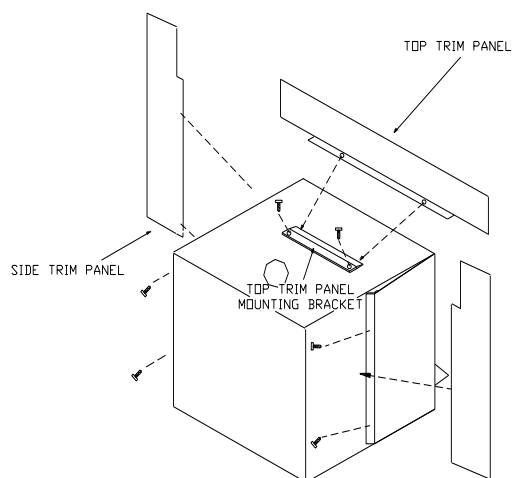

FIGURE 6 **MOUNTING TRIM PANELS**
1. Place side trim panels in place, flat against the face of the fireplace. Mark down front edge of trim panel with a pencil to make a vertical reference line. (See Figure 6).
4. Mount side trim panels. (See Figure 6).
12. Using insulation provided, peel and stick to back of panels overlapping fireplace dimensions by 1" on each side and top. (See Page 8, Figure 6).